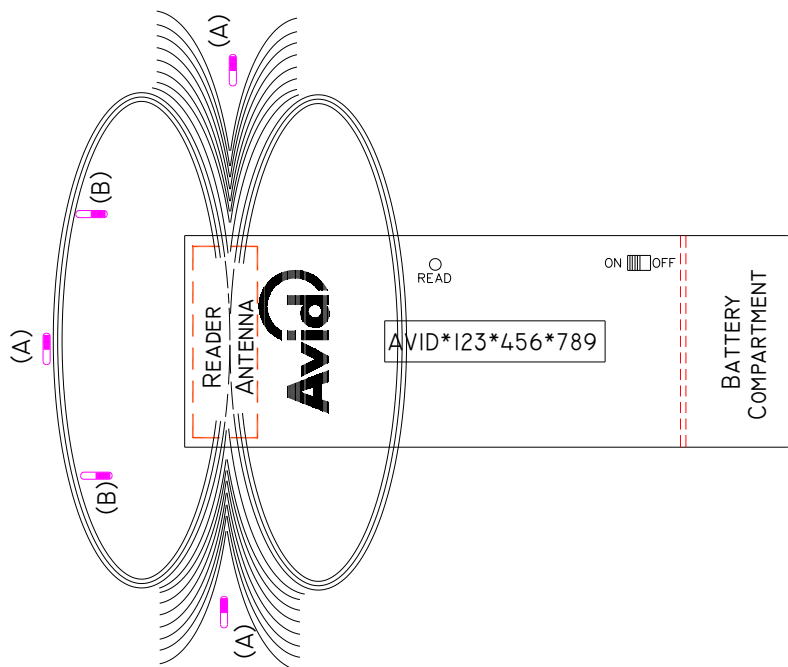

Figure 3
The reason for this scanning pattern is that chip orientation plays a major role in the optimum performance of the reader and reading distances. In Figure 3, below, CHIP(S) A, in a parallel orientation to the antenna, will achieve its maximum reading distance towards the center of the coil or in parallel to either end of the antenna. CHIP(S) B, in the perpendicular orientation to the antenna, will achieve its maximum read distance towards the outside edges of the antenna. It is therefore recommended to move the antenna in a circular motion so that at some point you are energizing the chip with a greater magnetic field making it easier to find the microchip.